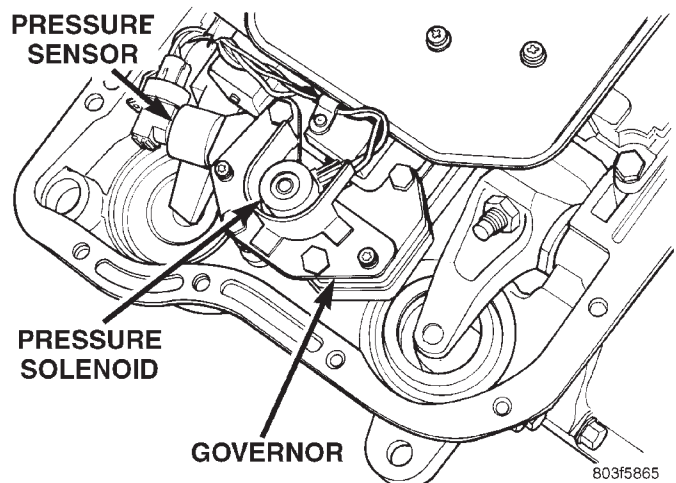

Fig. 61 Governor Pressure Solenoid And Sensor
(1) Disconnect wires from governor pressure sensor and solenoid (Fig. 61).